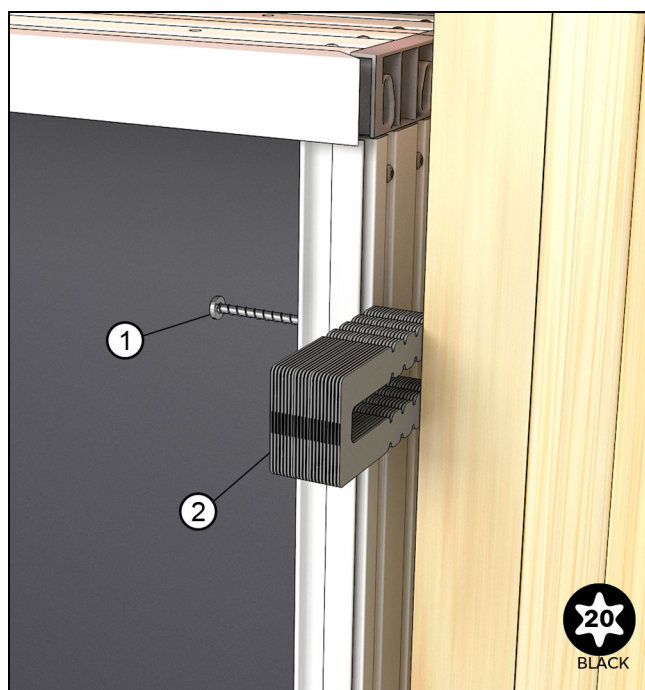

Figure 63
2. Apply shims and adjust, then fasten through the pocket jamb side near the top with a #10 x 3" (76) Torx (T20) screw provided. See Figure 63.